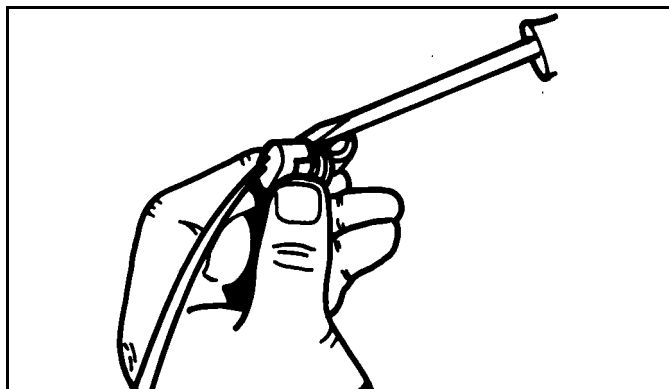

Figure 2-8
2. Remove retainer on wire end of connector with a screwdriver. (See Figure 2-8)